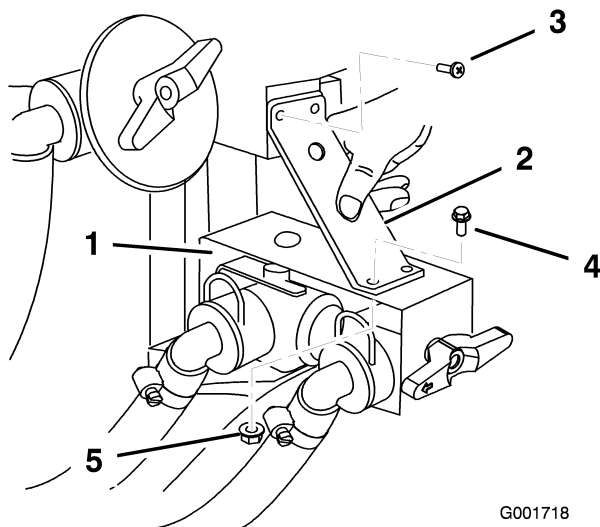

Figure 9
7. Install the support bracket over the control valve bracket. Use the two existing screws securing the upper tee assembly to secure upper portion of the support bracket (Figure 9). Secure the lower portion of the support